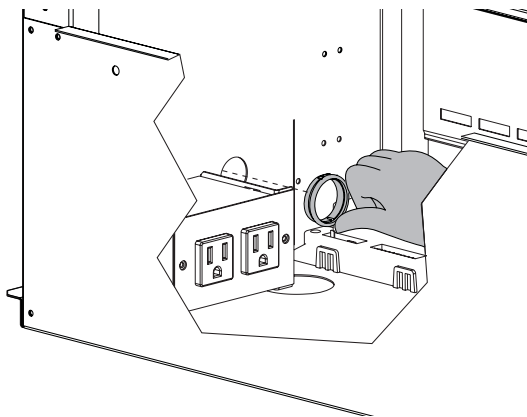
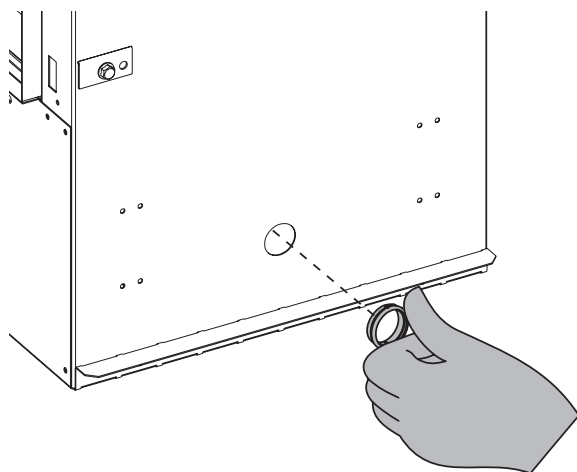

Figure 41
Figure 42
11. Install the provided plastic bushing in the opening where the wires exit the fireplace. See Figure 41 (left side), or Figure 42 (right side).